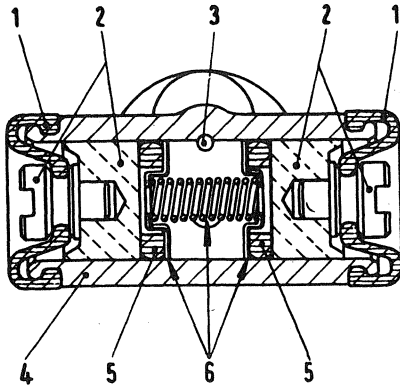

Fig. 348 - Wheel cylinder section.
As with the master cylinder, sealing is obtained by two rubber seal rings (5, fig. 348) which expand radially under fluid pressure.
When pressure reaches the fluid in wheel cylinders (fig. 348) it pushes plungers (2) outward, thus actuating brake shoes.
To remove cylinders from brake housing flanges, unfasten and remove rubber boots (1, fig. 348 on cylinder ends. Plungers and stems (2), seal ring (5) and thrust washers (6) (clenched to reaction spring) will be pushed out by the expansion of the spring.